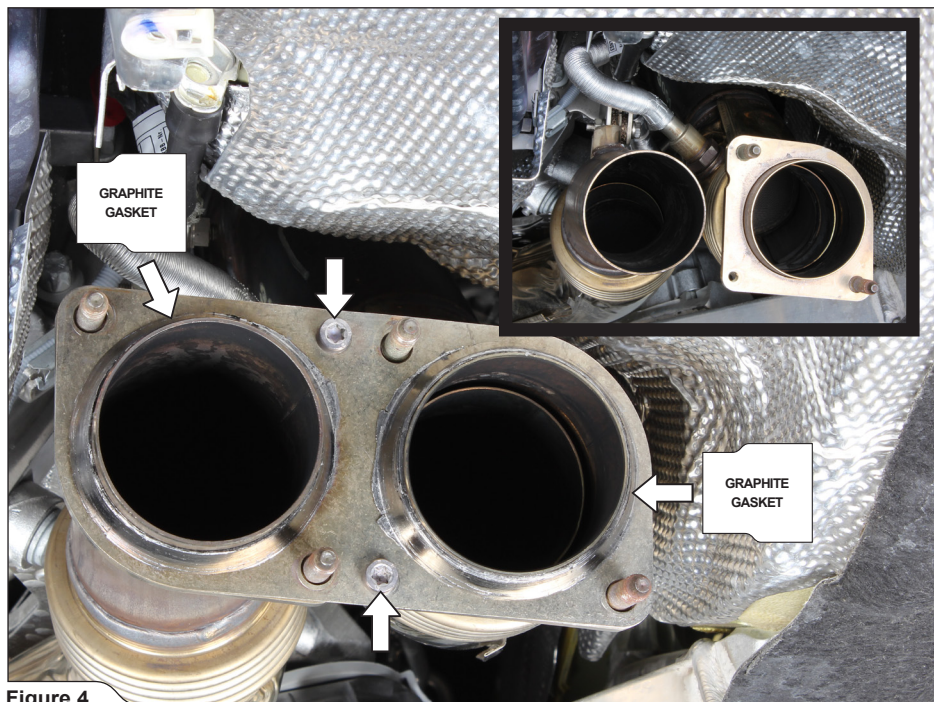

Figure 4
3. Unscrew the marked bolts, carefully remove both graphite gaskets and remove the pipe connecting plate (**Figure 4**).